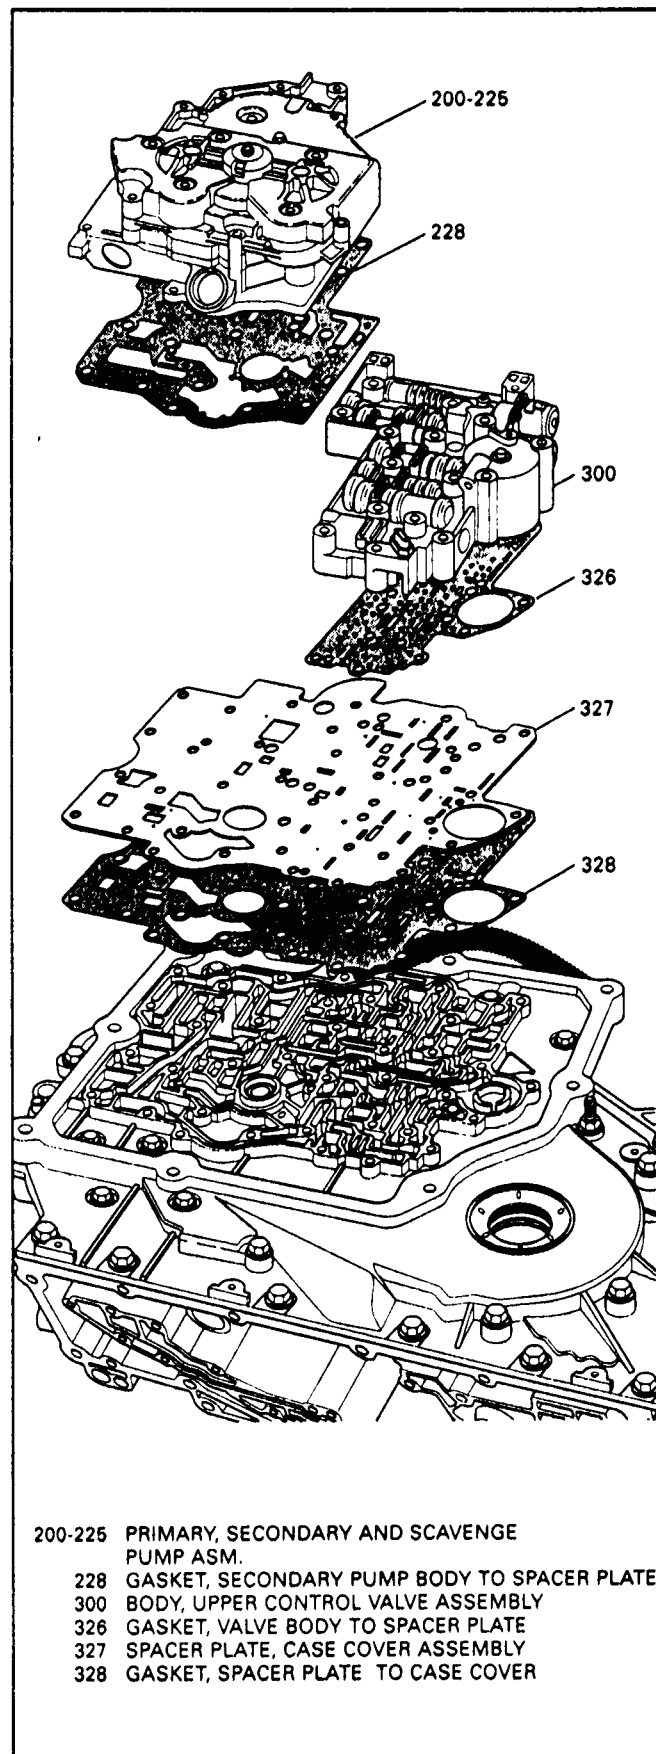

Figure 51
8. Remove the scavenge, primary and the secondary pump assemblies as one unit as shown in Figure 51.
9. Remove the upper valve body bolts and remove the upper valve body, as shown in Figure 51.